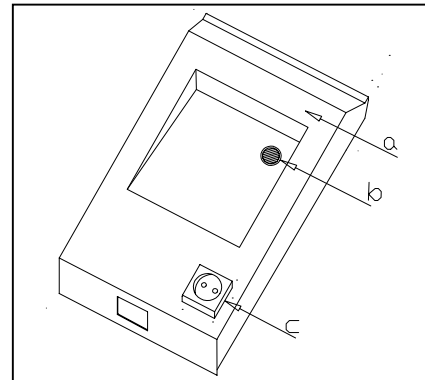

Figure 25
2. Optionally, a wall socket can also be fitted on the decorative plastic cover, see figure 24, point 4 and figure 25, point A. The lead from the peripheral equipment then runs along the back wall of the merchandiser to the wall socket. If different equipment is regularly connected to the wall socket, you are advised to fit a wall socket on the decorative plastic cover.
- Optionally, watertight buttons for a number machine may also be fitted on the decorative plastic covers (see figure 25, point B). This watertight button is also available as a pushbutton switch for the foot lighting.